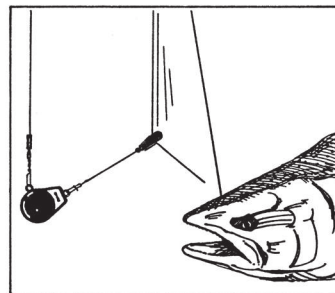

Figure 3
7. Your lure will trail behind the downrigger weight at your set distance. When you have a strike, the force of the fish striking the lure will pull the fishing line out of the release, detaching it from the weight (Figures 3 & 4). This will cause your rod to spring up, indicating that there is a fish on the line.